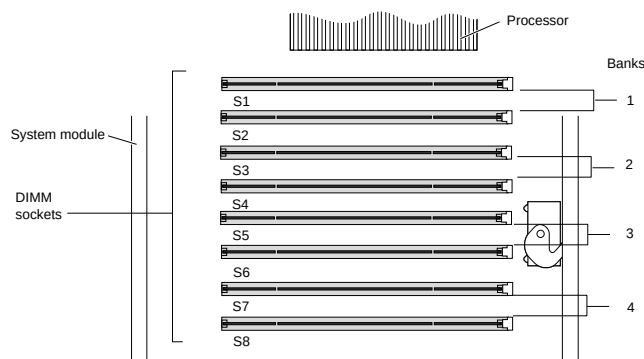

Figure 8 - DIMM Socket and Bank Identifications
- b.) Verify that both sockets in a bank are populated. DIMMs must be installed in pairs. See Figure 8.